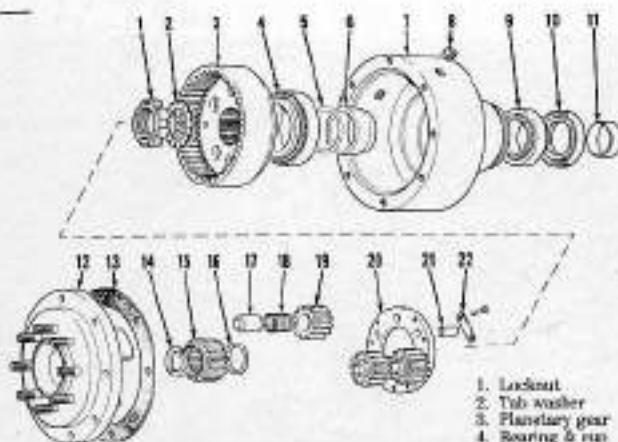
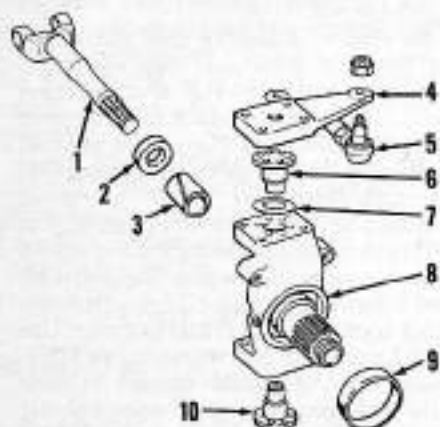

Fig. 6—Exploded view of David Brown front drive axle final drive showing relative position of its component parts.
Fig. 7—Exploded view of David Brown front drive stub axle showing component parts and their relative positions.
**13. REMOVE AND REINSTALL.** Left and right final drive removal procedure is similar. To remove, raise and support side to be serviced and remove tire and wheel. Rotate hub so drain plug is at bottom and drain fluid, 0.85 L (0.9 qt.). Remove end plate (12—Fig. 6) and use pry bars to pull sun gear (15) and shaft (1—Fig. 7) out approximately 5 mm (0.190 inch).
**NOTE:** Axle shaft seals (23—Fig. 4 and 2—Fig. 7) may be damaged if shaft (2—Fig. 7) is pulled out too far.
Hold axle shaft out and push sun gear in until split rings (14—Fig. 6) can be
Bend tab washer (2—Fig. 6) away from locknut (1) and remove nut with special spanner wrench (CAS-1607). Remove tab washer (2), planetary ring gear (3) and bearing cup assembly (4). Note number and thickness of shims (5) and remove. Remove spacer (6) and hub (7). Seal (10) in hub will be tight on axle and should stay on stub axle as hub is removed. Remove bearing (9) and seal (10).
14. If damaged or worn, oil seal wear sleeve (11) may be removed using care not to damage surface of stub axle. Install edge of sleeve having inside chamfer on stub axle first for reassembly.
bearing pins (6 and 10—Fig. 7). Remove bearing pins using jack screws in threaded hole of bearing pins. Note number and thickness of shims (7) and remove. Keep axle shaft (1) in position to prevent oil seal damage and remove stub axle assembly. Remove axle shaft (1).
Remove seal (2—Fig. 7) from inside stub axle (8) and using a suitable bushing driver, drive stub axle bushing (3) so it comes out of stub axle at seal end. Install new bushing from seal end until it seats in stub axle. Install oil seal (2) with lip entering bore first.
To set bearing pin preload reassemble unit MINUS shims (7—Fig. 7) and tighten lower bearing pin bolts to 68 N·m (50 ft.-lbs.) torque and upper bearing pin bolts to 20 N·m (15 ft.-lbs.) torque. Push stub axle up tight against bottom of axle housing and use a feeler gage to measure gap between upper bearing pin flange and stub axle. See mm (0.015 inch) LESS than feeler gage measurement to preload bearings to 0.100-0.150 mm (0.004-0.006 inch) when full load is on axle. Tighten upper bearing pin bolts to 68 N·m (50 ft.-lbs.) torque. Refer to paragraph 19 to set stub axle bearing preload.